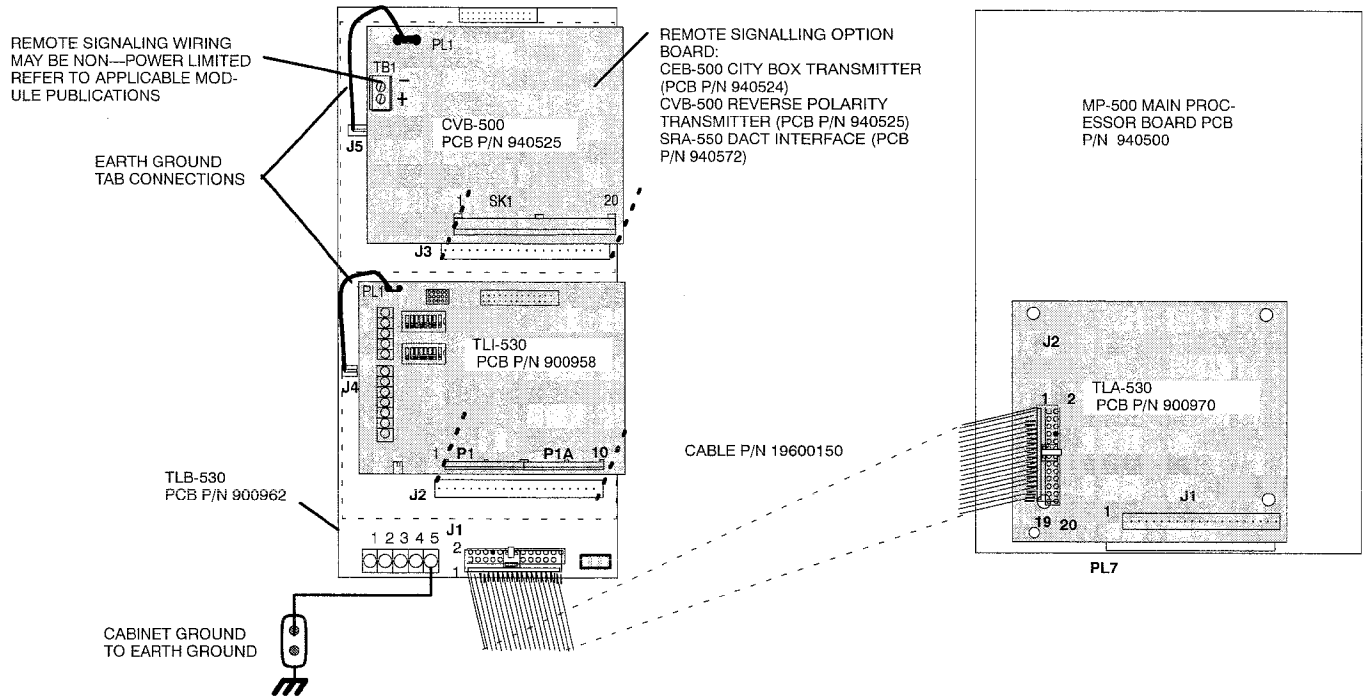

Figure 3. One TLI-530 and One Remote Signalling Option Board, with Connection to TLB-530.
4. **TFXnet Remote Signalling Application (See Figure 3):**
Make power and signal connections to the Fiber Optic Modem as shown in Table 2 and Figure 3.
Figure 3: Typical Fiber Optic Modem Configuration. Note that Fiber Optic Modem communication may be used on either or both channels of the TL1-530 network module.